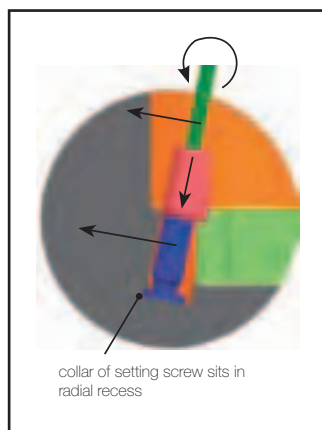

Fig. 6: ASSEMBLY
3. Using hexagonal key push setting screw into the radial recess at the bottom of the bore and screw-in the wedge anti-clockwise into the location bore to the block. In doing so the cartridge contact surface must be positioned opposite to the radial recess. Push the wedge from above onto the setting screw, so that the thread of the wedge can thread onto the setting screw (figure 6). If when screwing in the wedge the setting screw collar "jams" in the location bore (noticeable through the threaded pin being difficult to turn), press the entire adjustment unit into the location bore with the hexagonal key, if necessary resolve "jam" via clockwise rotation.